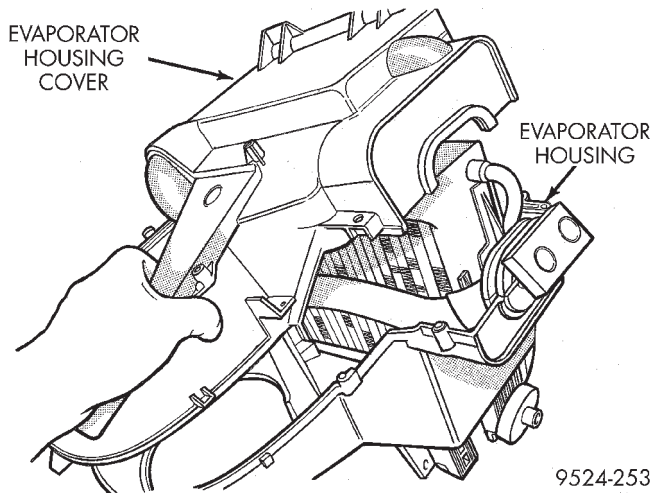

Fig. 90 Evaporator Housing Upper Cover
- (20) Remove evaporator housing upper cover (Fig. 90).